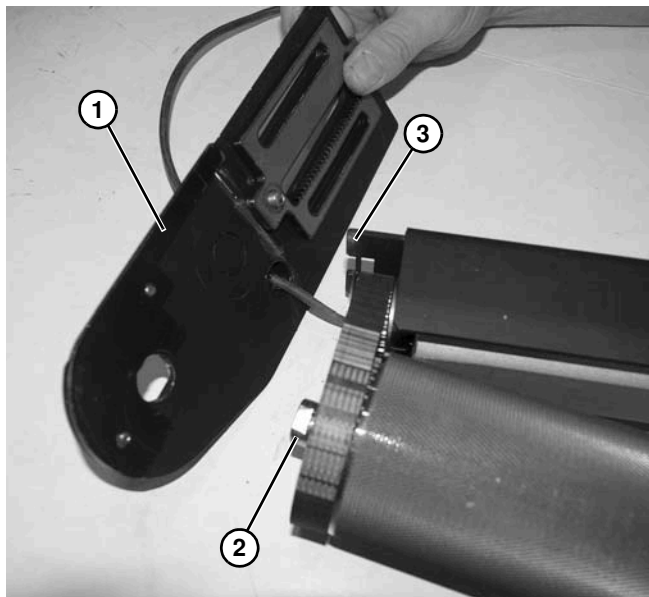

Figure 147
8. On opposite end, remove cover plate (**Figure 147, item 1**) from pulley shaft (**Figure 147, item 2**) and tabs (**Figure 147, item 3**) on crossmember.